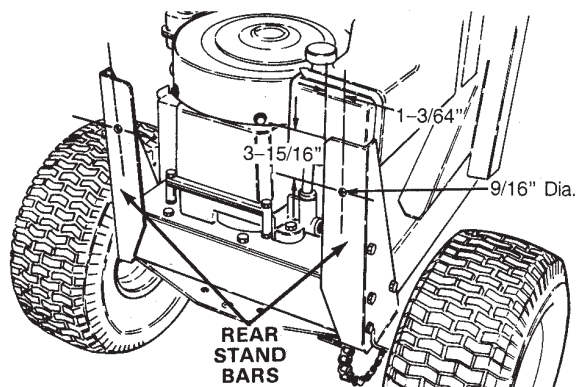

Figure 1
1. Using dimensions shown in Figure 1, locate and drill a 9/16 in. diameter hole in each rear stand bar.